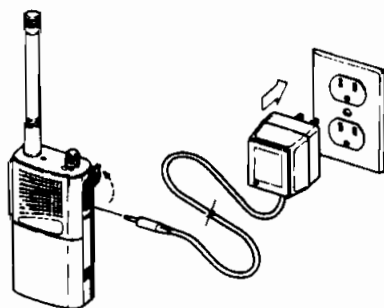

Figure 14.
3. Connect the charger adapter to the small size jack in the accessory connector (lower hole) on the side of the radio. Plug the charging adapter into an electrical outlet. See Figure 14.